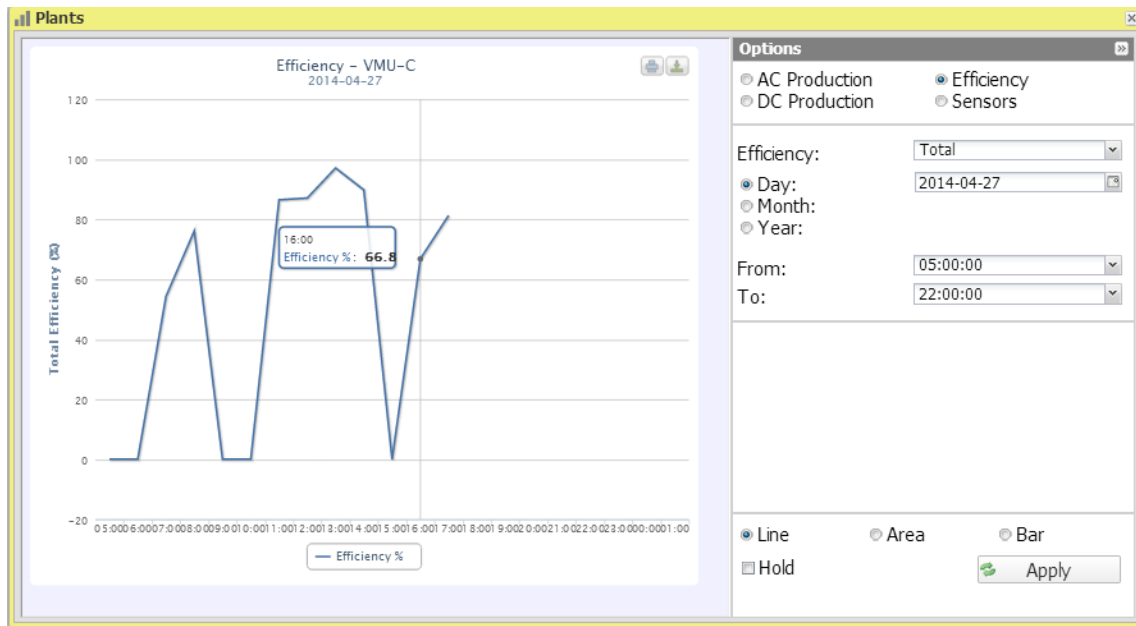

Figure 31: Plant Window; Efficiency Chart "Total" - Options Panel.
- “DC Current (A)” : chart shows the trend of current in A within the time interval chosen.
- “DC Voltage (V)” : chart shows the trend of voltage in V within the time interval chosen.
- “DC Power+Current+Voltage+Solar Irradiation” : chart shows the four dimensions at the same time, within the chosen time interval. The chart type for this selection is as shown in Fig. 31.